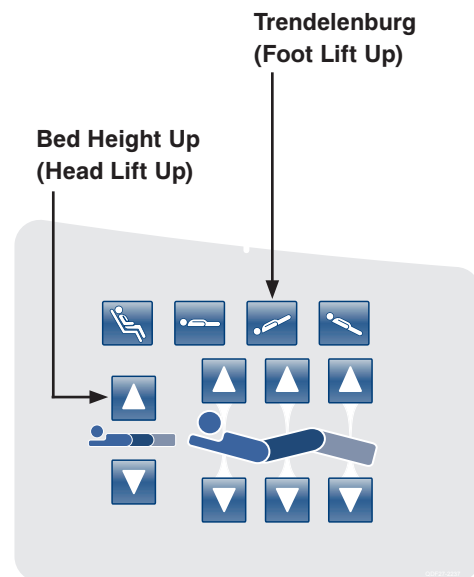

Figure 20: Head Siderail Control Panel - (Right Side Shown)
23. Place the bed at the highest height by pressing simultaneously the **Trendelenburg (Foot Lift Up)** button and **Bed Height Up (Head Lift Up)** button as shown in Figure 20.